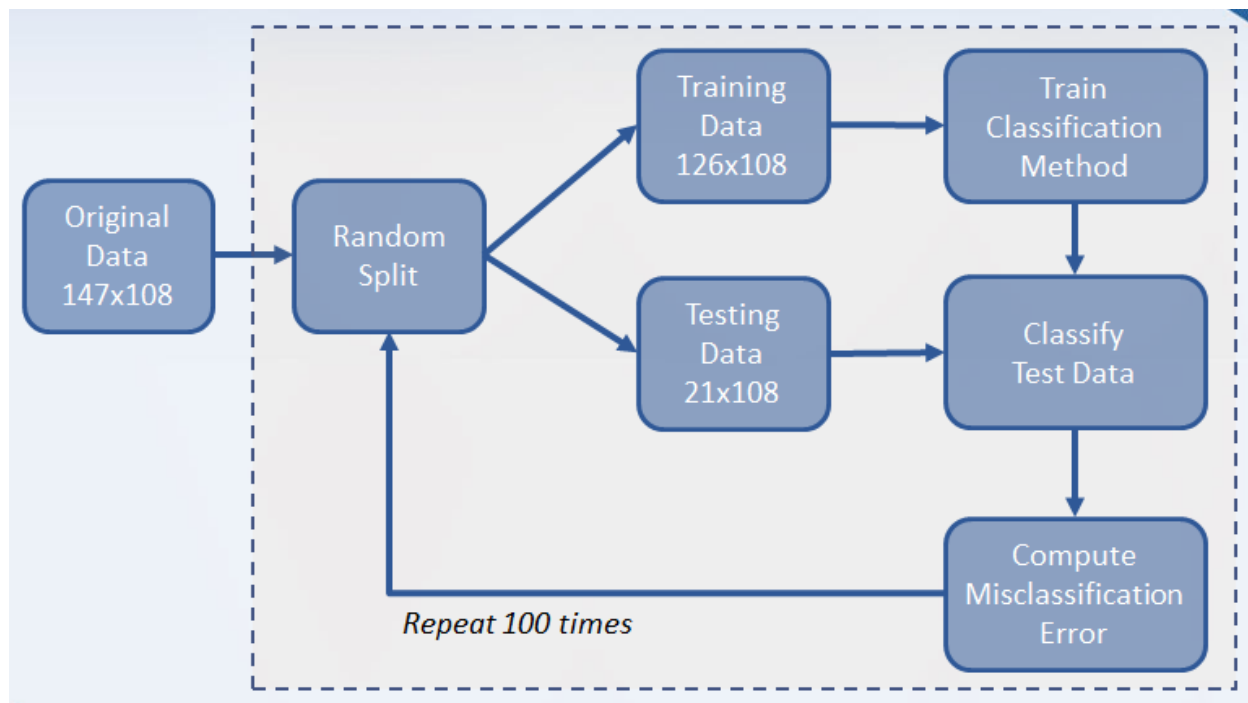

Figure 2. Procedure
The classification and testing procedure is shown in Figure 2. The data was divided into a training set and testing set by randomly removing a repeat from each of the 21 groups to use for the testing set. Thus, the training set and testing set contained 126 and 21 observations respectively. Note that for the training set, the sample size (126) is more than the number of variables (108), so no high-dimensionality problems in the methods are expected. The training set was used to train the machine-learning algorithms, and then the classification labels were predicted for the testing dataset. The procedure was repeated 100 times for each classification method.